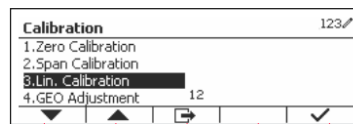

Figure 15
- Press the softkey corresponding to the ✓ icon to enter the Calibration submenu. Scroll to Linearity Calibration using the softkey corresponding to the ▼ icon. (See Figure 15)